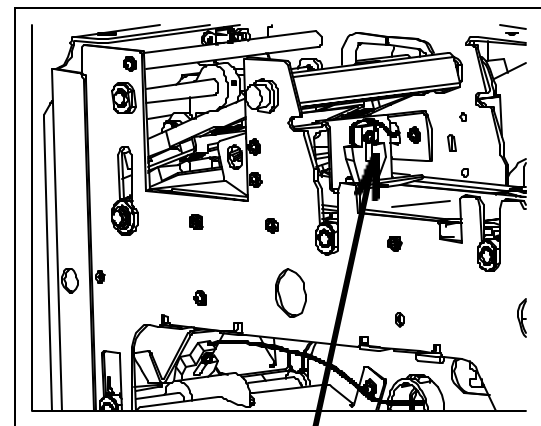

Figure 2 Post-Mag Sensor
7. Remove the #4-40 Sensor Screw from the Post-Mag Sensor. (Figure 2)